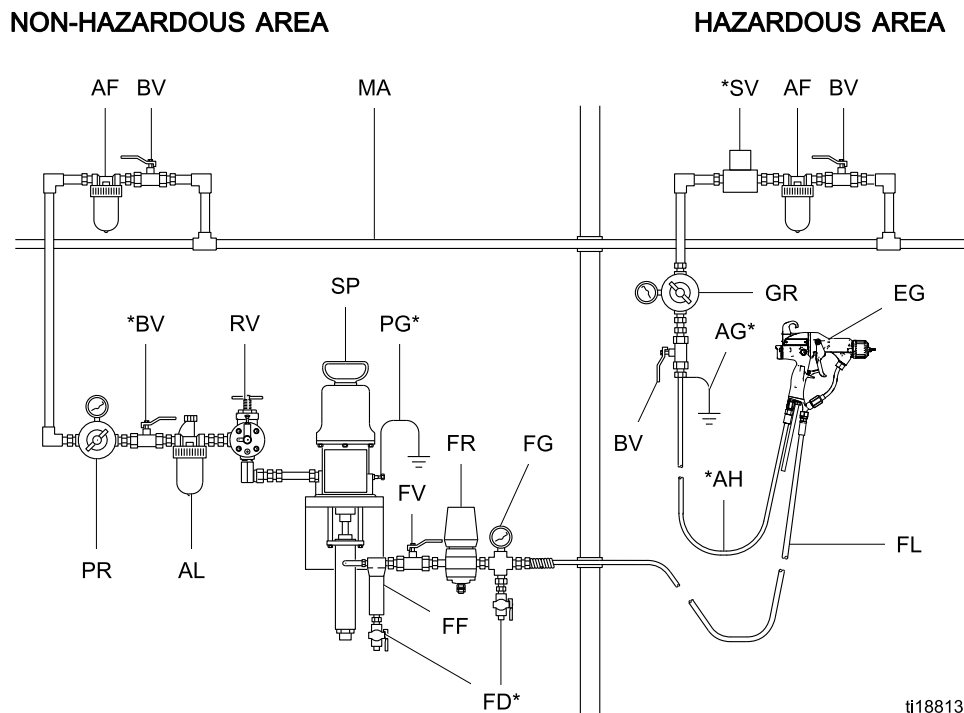

Figure 10 Typical Installation
Fig. 10 shows a typical electrostatic air-assisted spray system. It is not an actual system design. For assistance in designing a system to suit your particular needs, contact your Graco distributor.
1. See Fig. 10. Use the Graco Grounded Air Supply Hose (AH) to supply air to the gun. The gun air inlet fitting has a left-hand thread. The air supply hose ground wire (AG) must be connected to a true earth ground. Do not connect the air supply hose to the gun air inlet yet.
2. Install an air line filter/water separator (AF) on the gun air line to ensure a dry, clean air supply to the gun. Dirt and moisture can ruin the appearance of your finished workpiece and can cause the gun to malfunction.